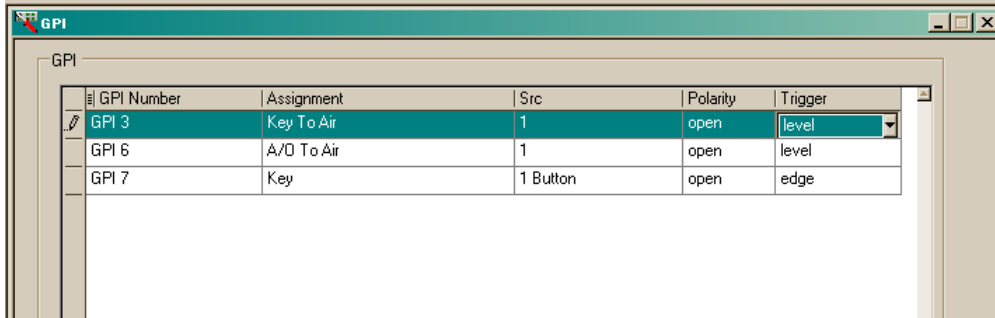

Figure 6-1. GPI Settings for EAS Logo Insertion
2. Connect this GPI output to an IconMaster GPI input, and configure IconMaster to use this GPI input as Key to Air (as in Figure 6-1) so that the EAS Box can hold the Audio Over active for the duration of the EAS audio message.